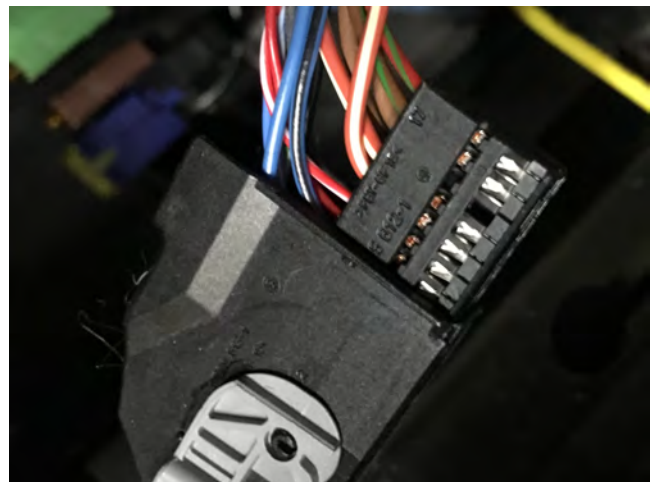

Figure 6.B
- These wires are in the VCS connector (Figure 6.C)